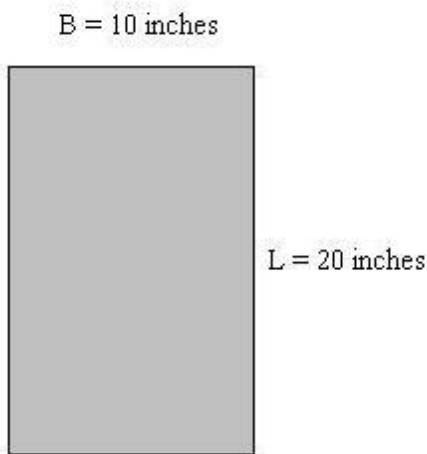

Figure 1: Cross-sectional area.
1. Calculate the maximum tensile and compressive forces allowed for the cross-sectional area shown in Figure 1. The maximum tensile strength is 500 lb/in2 (pounds per inches squared). The maximum compressive strength is 5,000 lb/in2. Use the following equations to complete the problem. Show your work and calculations.